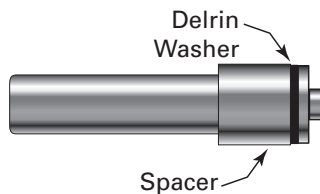

Figure 5
1. Slip the Delrin® washer and spacer over the body of the Pull-Lock® fitting. (Figure 5)